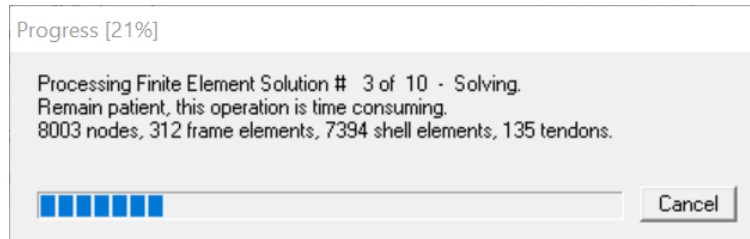

FIGURE 13-3
- Select **OK** to analyze the model. Note the model may take several minutes to process as we are analyzing the full building. The *Progress Bar* will indicate the current analysis status, as shown in **FIGURE 13-3**.